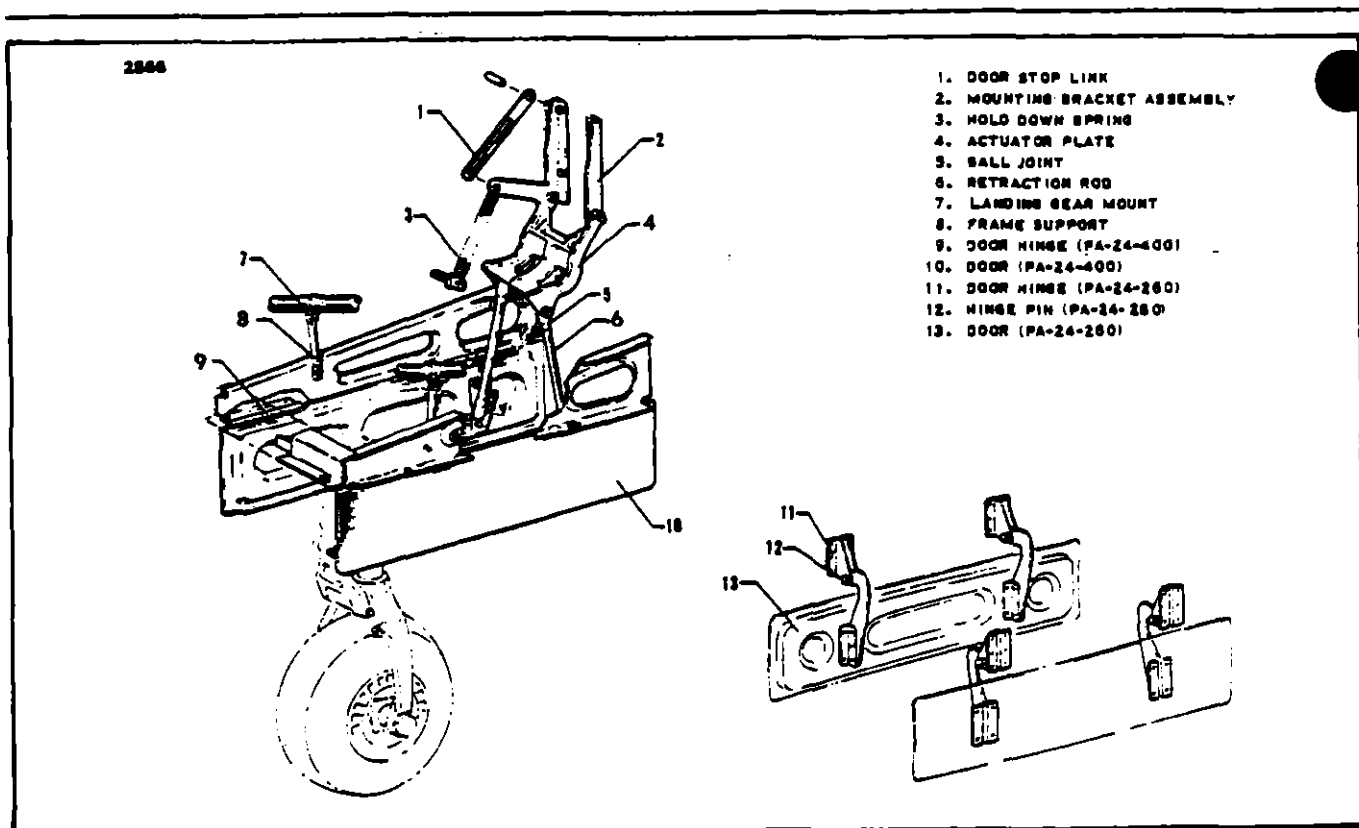

FIGURE 6-7. NOSE GEAR DOOR INSTALLATION, PA-24-260 and PA-24-400
**6-23. Removal Of Nose Landing Gear Door Assembly. (Refer to Figure 6-7.)**
- a. With the nose landing gear extended disconnect the retraction rods (6) at the actuator plate (4) by removing the locknuts and washers from the ball joints (5).
1. Remove the door hold down spring (3).
2. Remove the door retraction bracket assembly (2) from the firewall by removing the four attaching nuts and bolts.
**6-25. Installation Of Nose Landing Gear Door Assembly. (Refer to Figure 6-7.)**
- a. Position the retraction bracket assembly (2) on the firewall and secure with attaching bolts, washers and nuts.
- b. Install the hold down spring (3).
- d. Attach the retraction rods (6) to the actuator plate (4) with washer and locknut.